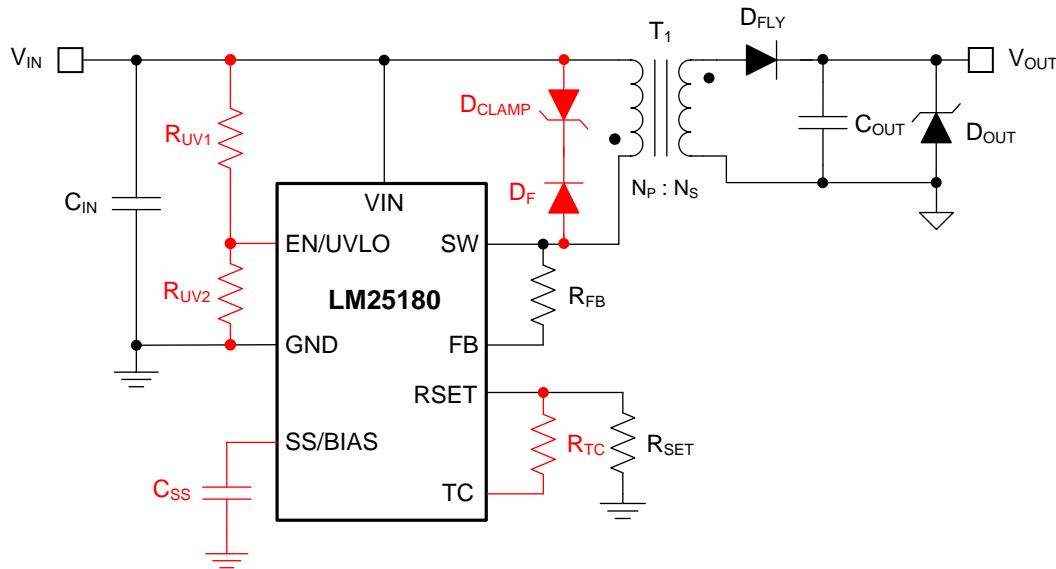

Figure 19. LM25180-Q1 Flyback Converter Schematic (Optional Components in Red)
Figure 19 shows a typical schematic of the LM25180-Q1 PSR flyback circuit. Components denoted in red are optional depending on the application requirements.
To minimize output voltage regulation error, the LM25180-Q1 senses the reflected secondary voltage when the secondary current reaches zero. The feedback (FB) resistor, which is connected between SW and FB as shown in Figure 19, is determined using Equation 8, where R_{SET} is nominally 12.1 kΩ.